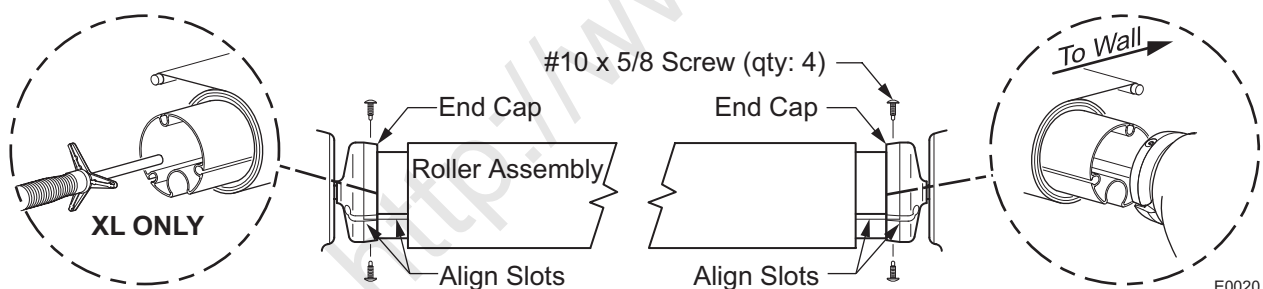

Figure 3. Assembling the Awning.
4. (Refer to Figure 3) Align the roller assembly with the end cap on the motorized arm assembly. Rotate the end cap until the slot in the cap aligns with the empty slot in the roller assembly, and then press the roller assembly fully into the cap. The end cap must seat squarely over the end of the roller assembly when complete.